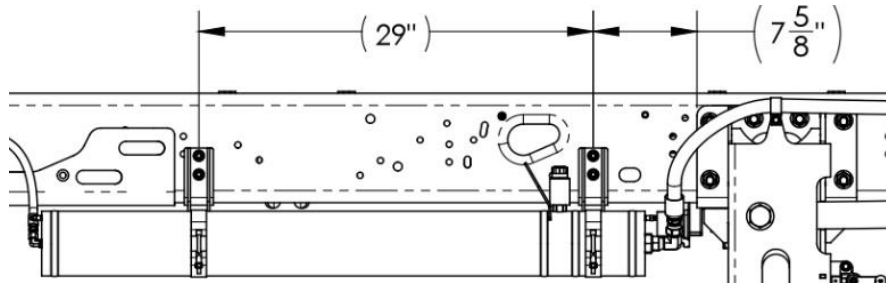

Figure 20: Approximate Locations of Volume Brackets (120" CA)
1. Find the (2) existing holes in the frame as shown in Figure 20 on passenger side of vehicle.